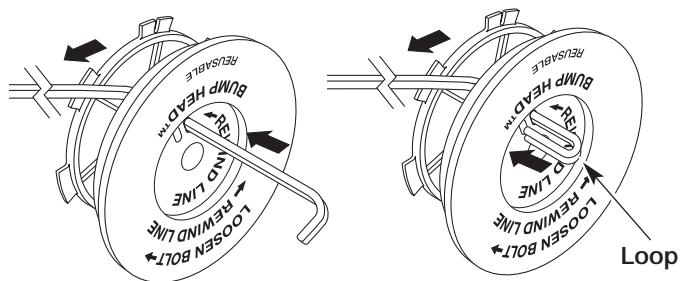

Figure 37
8. Take approximately 20 feet (6.1 m) of new trimming line. Insert one end of the line through one of the two holes in the inner reel. See Figure 37. Pull the line through the inner reel until only about 4 inches is left out.
9. Insert the end of the line into the open hole in the inner reel and pull the line tight to make the loop as small as possible. See Figure 37.